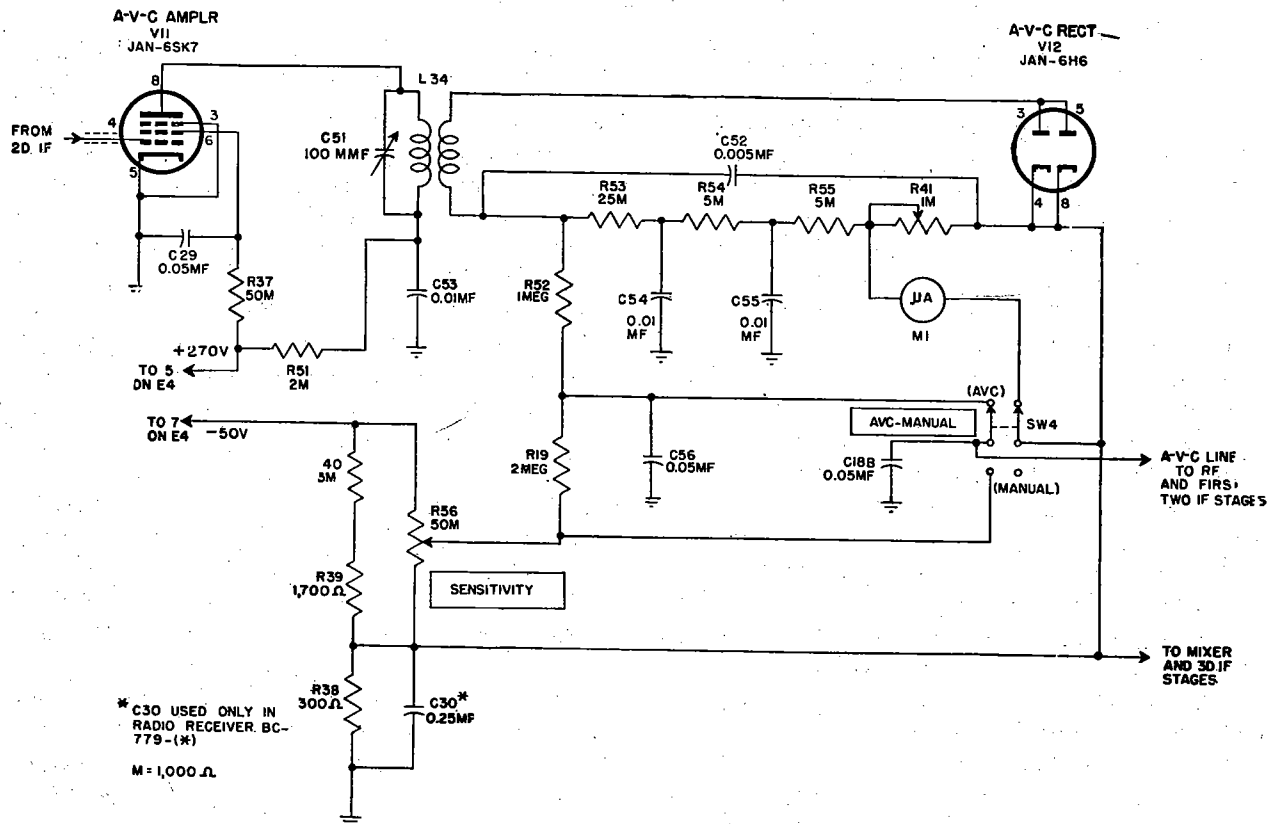

Figure 31. Radio Receiver BC-779-B, functional diagram of a-v-c stages.
a. *MIXER TUBE JAN-6L7.* For simplicity, capacitor C71, main tuning ganged capacitor C1C, and band spread ganged capacitor C2C are represented as a single variable capacitor C across the inductance trimmed secondary of r-f transformer L18. Signal voltages across C are applied through 600-mmf capacitor C11 to signal grid G1 (top cap) of pentagrid mixer Tube JAN-6L7. Fixed bias from the voltage divider (fig. 31) is applied through a filter circuit (10,000-ohm resistor R10 and 0.01-mf capacitor C12) and 500,000-ohm grid resistor R9 to the signal grid. Screen grid G2 and G4 (pin 4) forms a screen about injection grid G3 (pin 5), and the h-f oscillator output is coupled through 95-mmf capacitor C13 to the injection grid. Since the screen grid shields the signal and injection grids from one another, the tube electron stream is modulated independently by the r-f and oscillator signals. Heterodyne action produces sum and difference frequencies in the mixer output. The primary of transformer T1 is tuned by C21 to the 465-kc difference frequency to which the i-f amplifier is also tuned. The i-f voltage across the secondary winding of transformer T1 is applied to the crystal filter.
65. A-V-C Circuit (fig. 31)
and to the control grid (pin 4) of the a-v-c amplifier stage V11 (fig. 31). V7 and V11 have a common grid circuit, including fixed bias. The suppressor and cathode of V11 are grounded; screen voltage is applied to pin 6 through 50,000-ohm series-dropping resistor R37; and the screen is bypassed by 0.05-mf capacitor C29. Plate (pin 8) voltage is applied through 2,000-ohm filter resistor R51 and the primary of transformer L34. The primary of L34 is tuned to 465 kc by 100-mmf capacitor C51, and capacitor C53 (0.01-mf) bypasses high frequencies to ground. The transformer secondary is untuned.